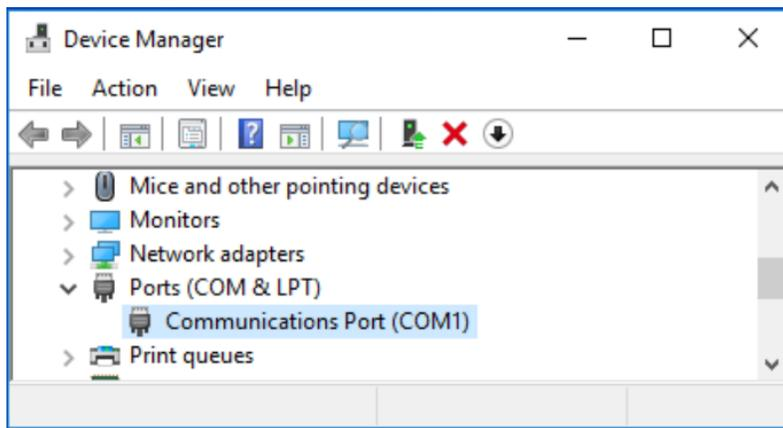

Figure 16 Identifying the serial communications (COM) port
3. Expand the **Ports** listing to identify the active COM port. In this example, COM1 is used as shown in Figure 16 .